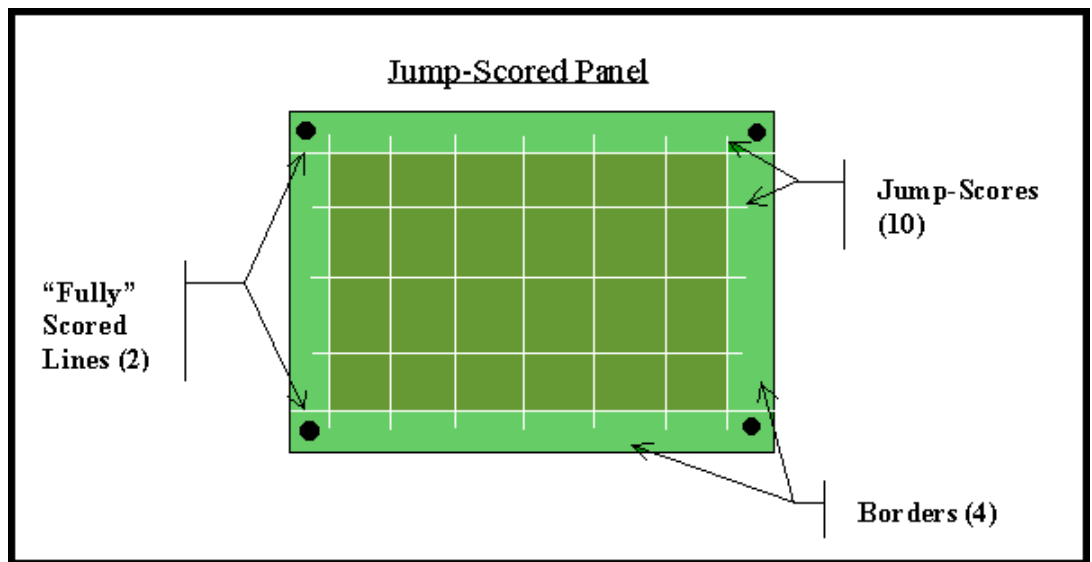

Figure 6. Standard Jump-Scoring.
1. **Standard Jump-Scoring** simply allows for a score line to jump over most of the panel border, leaving the border largely intact, and as a result, stronger and more rigid, resulting in a stiffer and stronger assembly panel. These Jump-Score lines can be cut much deeper than standard lines (to allow for easier board break-out) because the line itself is no longer required to be structural to the point of supporting the entire panel, only the individual board. Webs can be reduced to as thin as 0.008" to 0.010" when using Standard Jump-Scoring. When Jump-Scoring though, you must remember that at least two of the outside lines in the array (in either direction) must extend all the way through the border, to allow for a starting point for depaneling. See Fig 6. This will weaken the panel along the axis of these "fully" scored lines, reducing the overall usefulness of the process. This may be acceptable in many assembly operations that require panel rigidity mainly in one direction only. But, if the panel requires similar rigidity in both axes, Advanced Jump-Scoring (described in #2 below) can be used to provide both near-effortless breakout and rigidity of the panel in both axes.